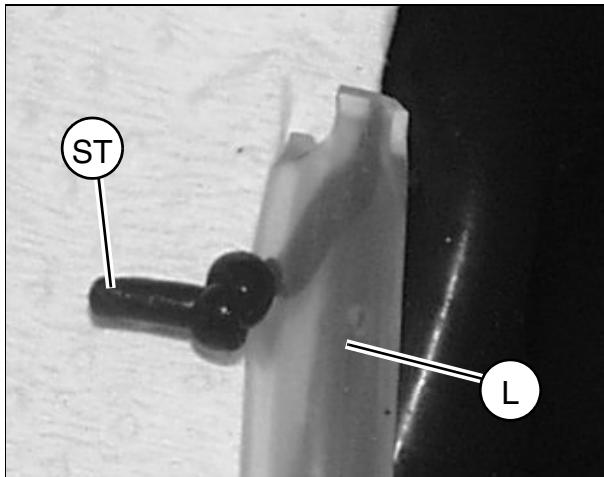
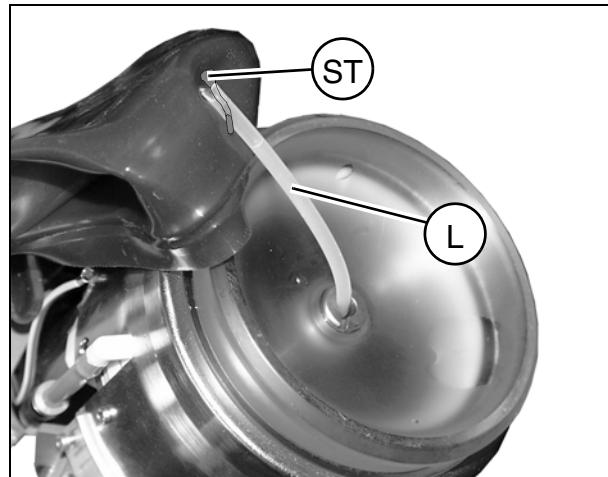

Fig. 8
Fig. 9
- Remove the coupling bellows, carefully pulling the small pin out of the air suction hose inside the coupling bellows (refer also to Fig. 8 and Fig. 9).
- Insert the air suction hose centrally through the shock wave head (L/Fig. 9).
- Insert the air suction hose (L) as shown in Fig. 8 and Fig. 9 carefully over the pin (ST) in the coupling bellows. Tie a knot to secure it (Fig. 8).
- Install the coupling bellows; when doing this, ensure that the pin (ST/Fig. 9) for attachment of the hose is positioned at the highest point and is seated correctly in the clamp.
- Check whether the air suction hose inside the coupling bellows is actually secured at the topmost position (refer to the section "Installing the shock wave head" and Fig. 8).